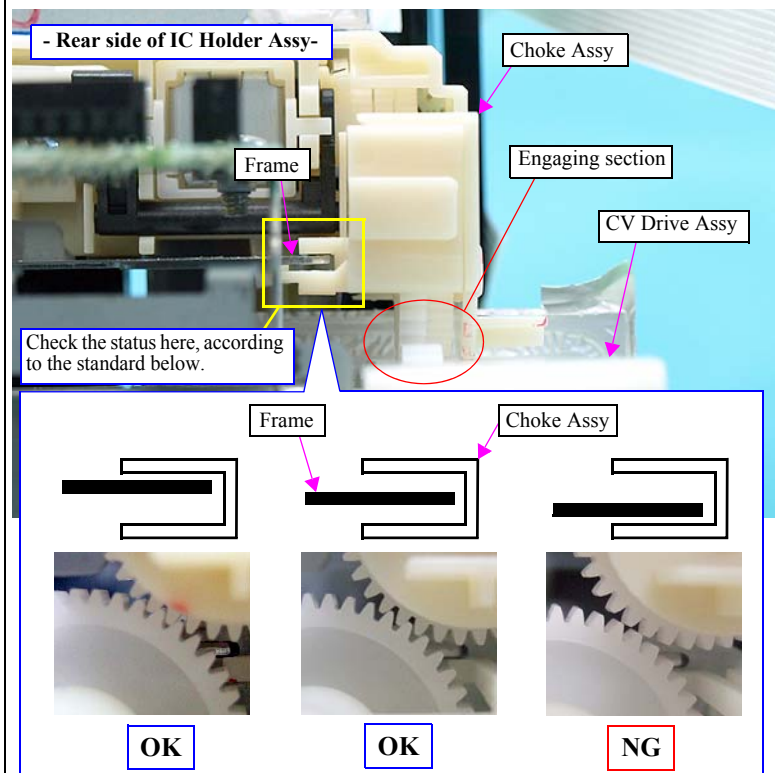
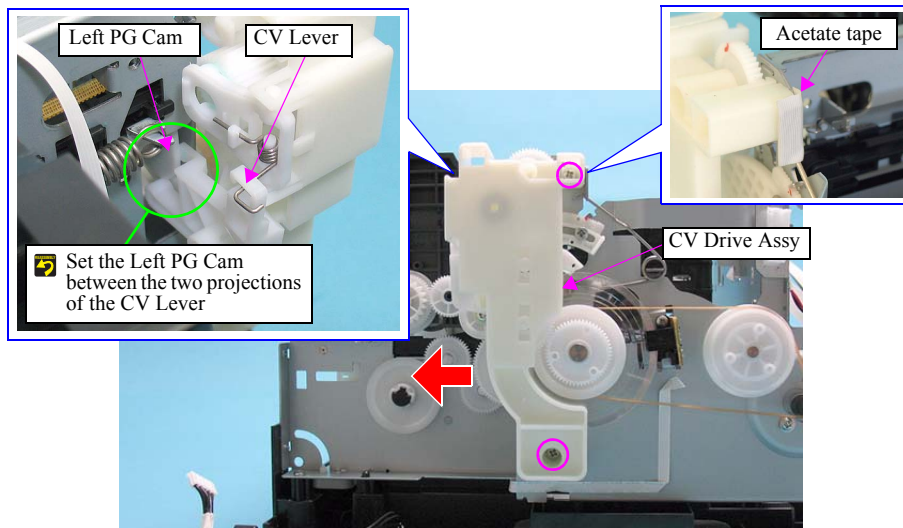

Figure 4-95. Check for Engagement of the CV Drive Assy and the Choke Assy
Figure 4-98. Removing the CV Drive Assy
6. Return to the step 3, and check the status according to the standard shown in Figure.4-95.
NOTE: If NG according to the standard shown in Figure.4-95, the reasons might be because the acetate tape (Figure.4-98) attached to the CV Drive Assy is folded and prevents the Choke Assy from staying in the right position. In such a case, unfold the tape taking care not to damage the Ink Tube, and secure the Choke Assy once again.
- Set the CV Lever of the CV Drive Assy as shown in Figure.4-98.